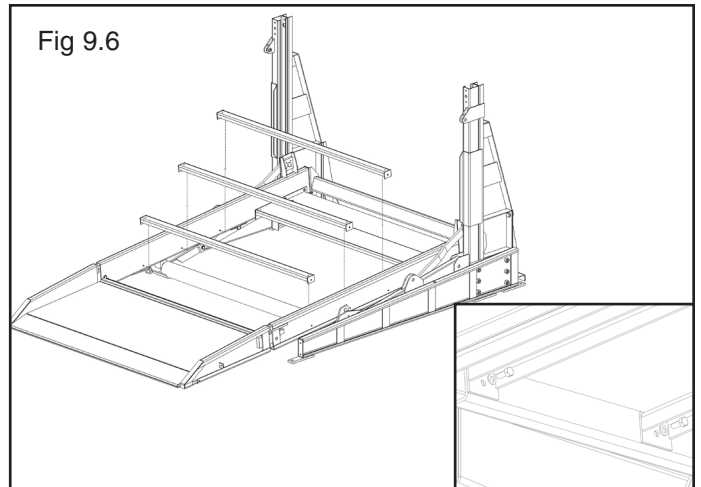

Fig 9.6
6. Install the four Deck Channel Weldments next. Orient the Deck Channel Weldments so that the “open” side of the channel face towards the ground. Use M10 bolts, washers, and nuts to fasten the Deck Channel Weldments to the Ramp Side Weldments. (See Fig 9.6)